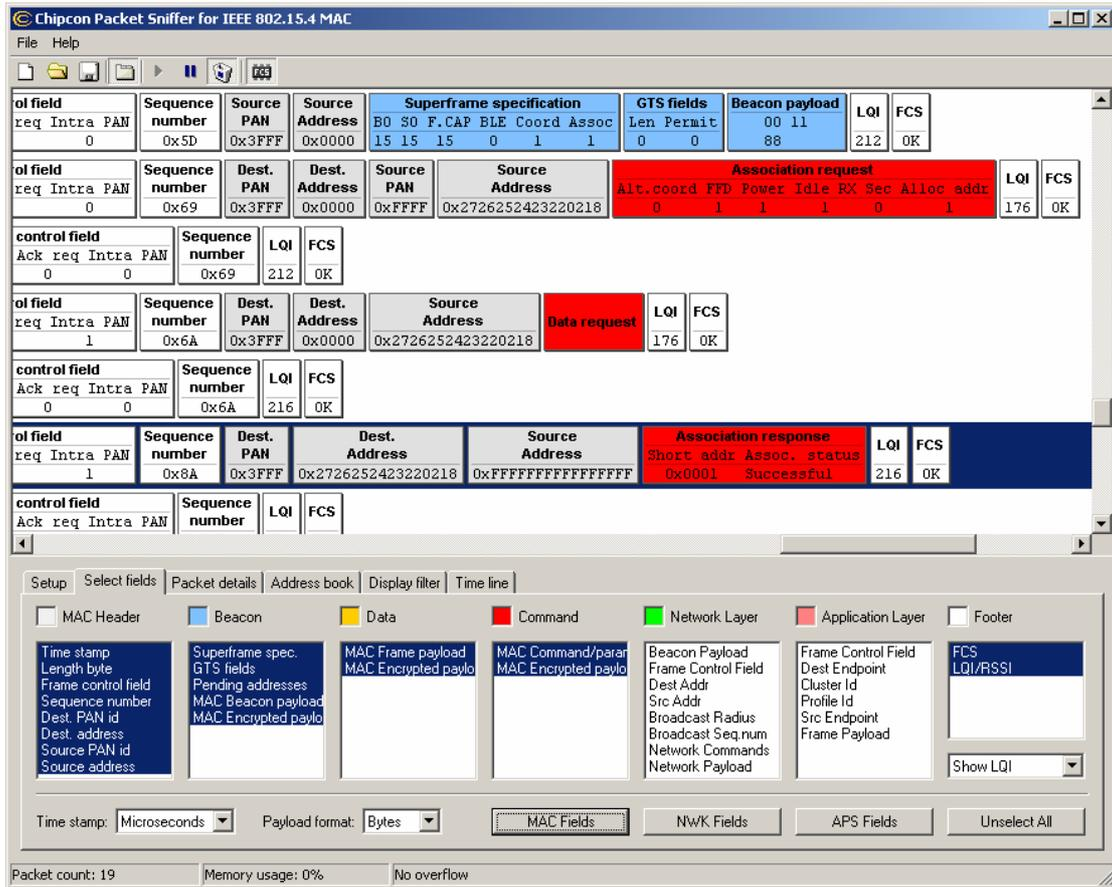

Figure 7: Packet Sniffer Capture Window
- a. When the Packet Sniffer is running, the LEDs will blink when packets are received. See figure 7
In order to do ZigBee network layer (NWK) or Application Support Sub layer decodes, go to the "Select Fields" section of the sniffer. Use the "MAC Fields", "NWK Fields" and "APS Fields" at the bottom to switch between the different levels of decoding. See figure 7 for an example.